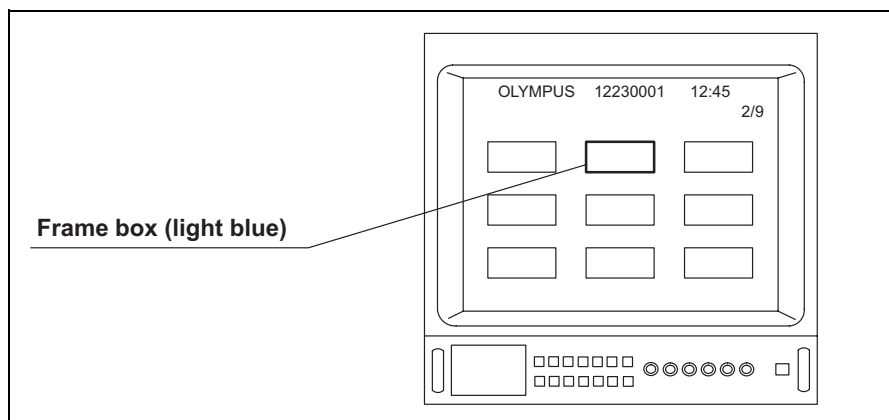

Figure 5.102
5. Depress the “Tab” key on the keyboard. Then, the frame box of selected image is turned light blue (see Figure 5.102).
Depending upon the images recorded on Memory Card, the menu shown in Figures 5.102 and/or 5.103 may appear different from those displayed on the video monitor.